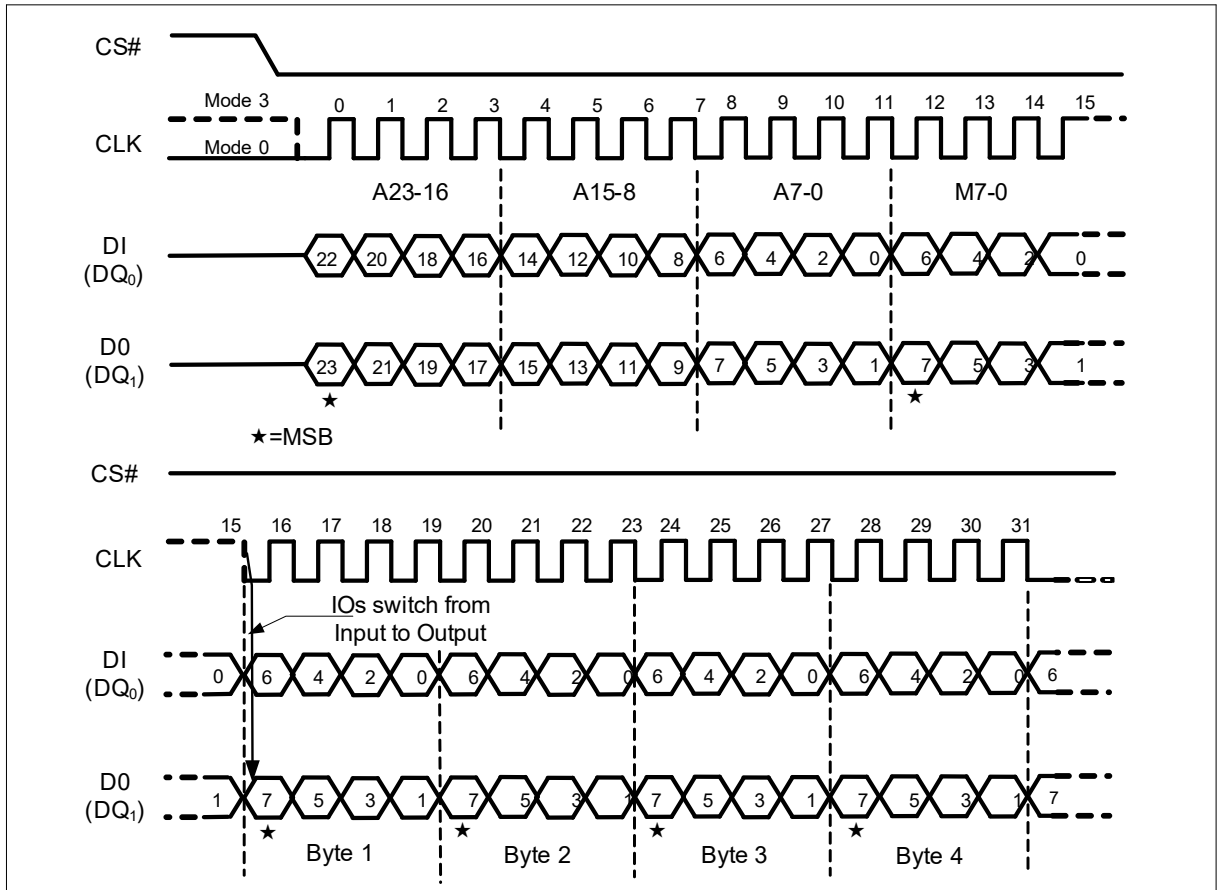

Figure 20 Fast Read Dual I/O Instruction (Previous instruction set M5-4 = 10, SPI Mode only)
If the “Continuous Read Mode” bits M5-4 = (1,0), then the next Fast Read Dual I/O instruction (after CS# is raised and then lowered) does not require the BBh instruction code, as shown in Figure 20. This reduces the instruction sequence by eight clocks and allows the Read address to be immediately entered after CS# is asserted low. If the “Continuous Read Mode” bits M5-4 do not equal to (10), the next instruction (after CS# is raised and then lowered) requires the first byte instruction code, thus returning to normal operation. It is recommended to input FFFFh on DQ₀ for the next (8 clocks), to ensure M4 = 1 and return the device to normal operation.